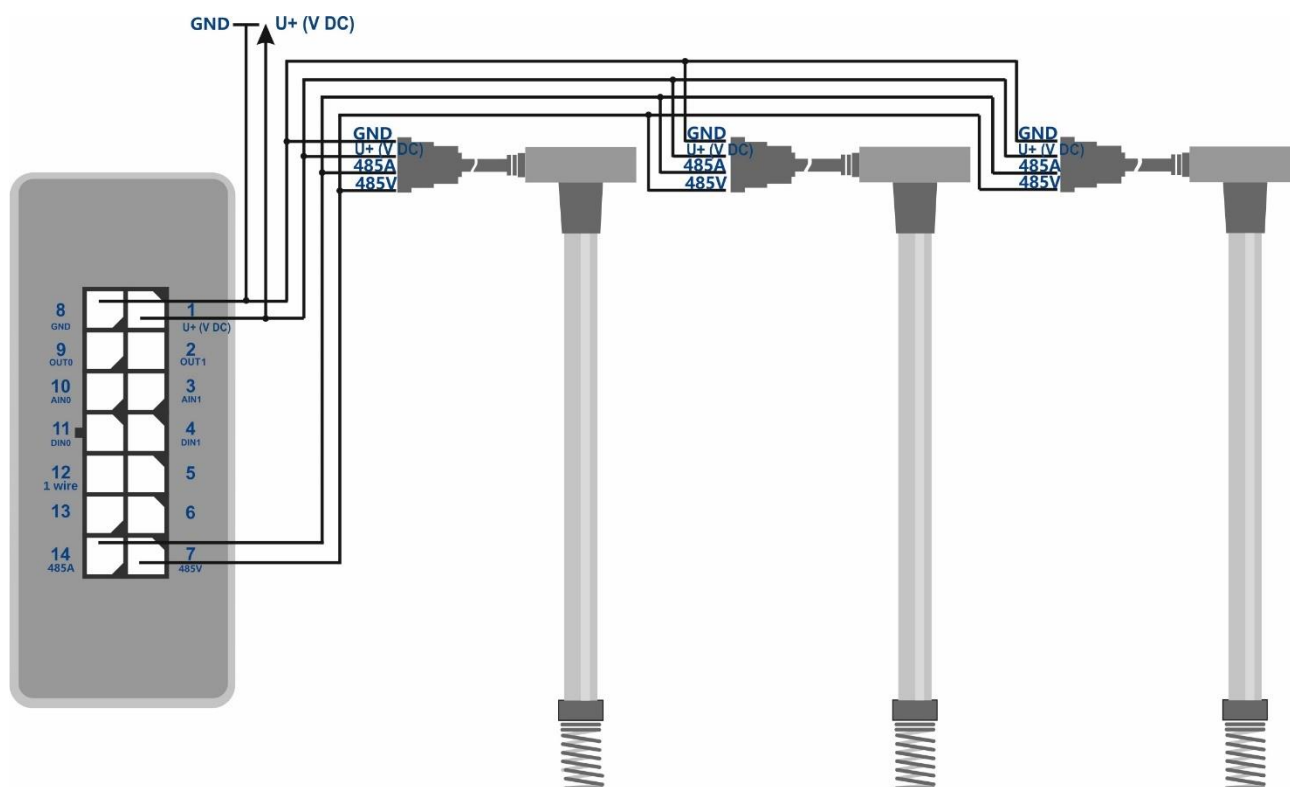

Figure 11 – Scheme of fuel level sensors connection
- 2) Connect lines A and B to the tracker connector pins 14 and 7 respectively. The connection scheme is given in figure 11.